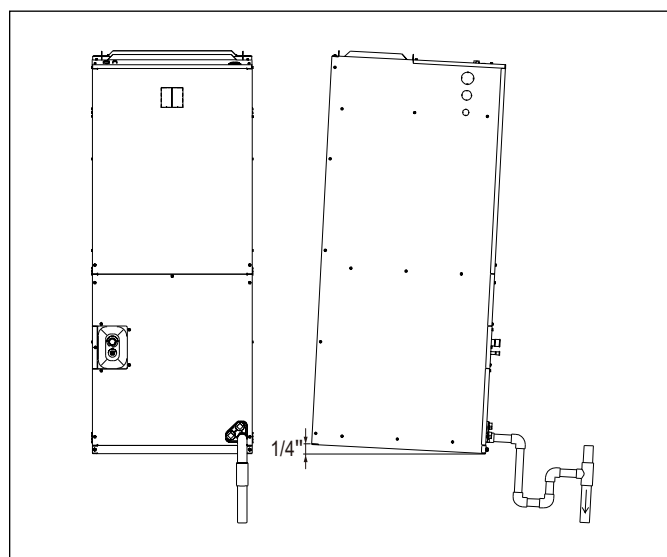
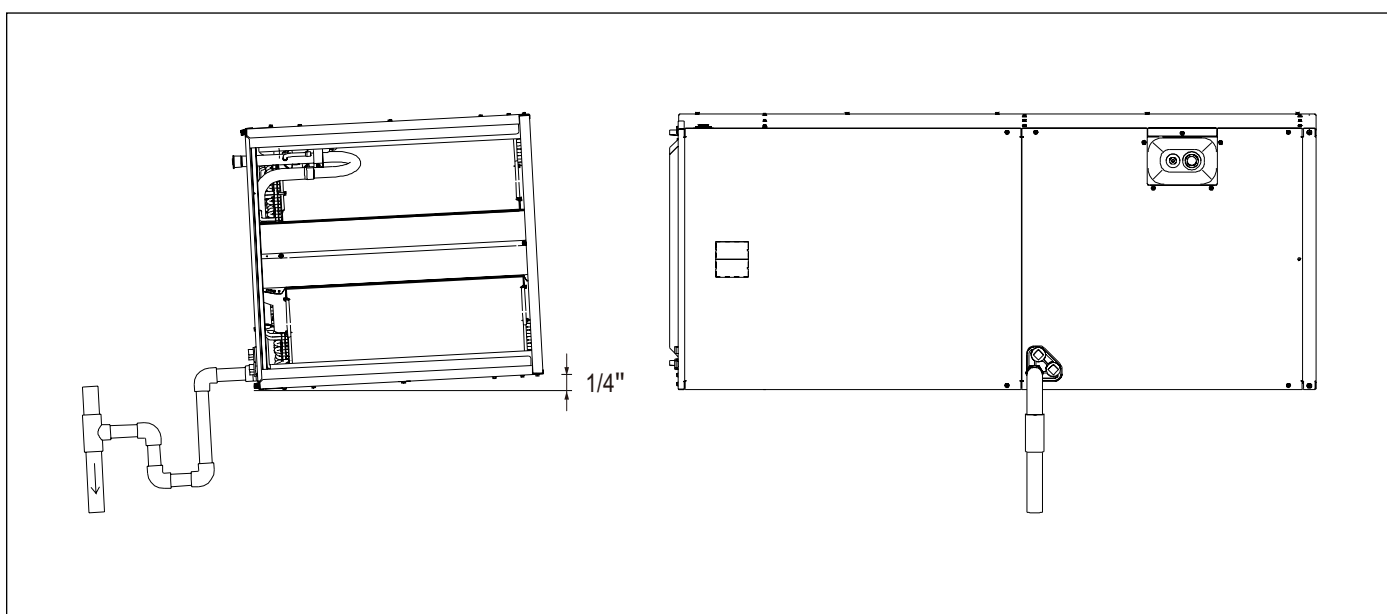

Figure 19 Vertical upflow view
Figure 22 Horizontal left view
- Make sure unit is leveled or pitched slightly toward primary drain connection so that water will drain completely from the pan. Up to an additional 1/4" rise over the width or depth of the unit is allowed to create additional sloping towards the drain. Unit must be positioned between level and 1/4" rise, sloping toward the drain connections. See Figure 19 to Figure 22 for reference.